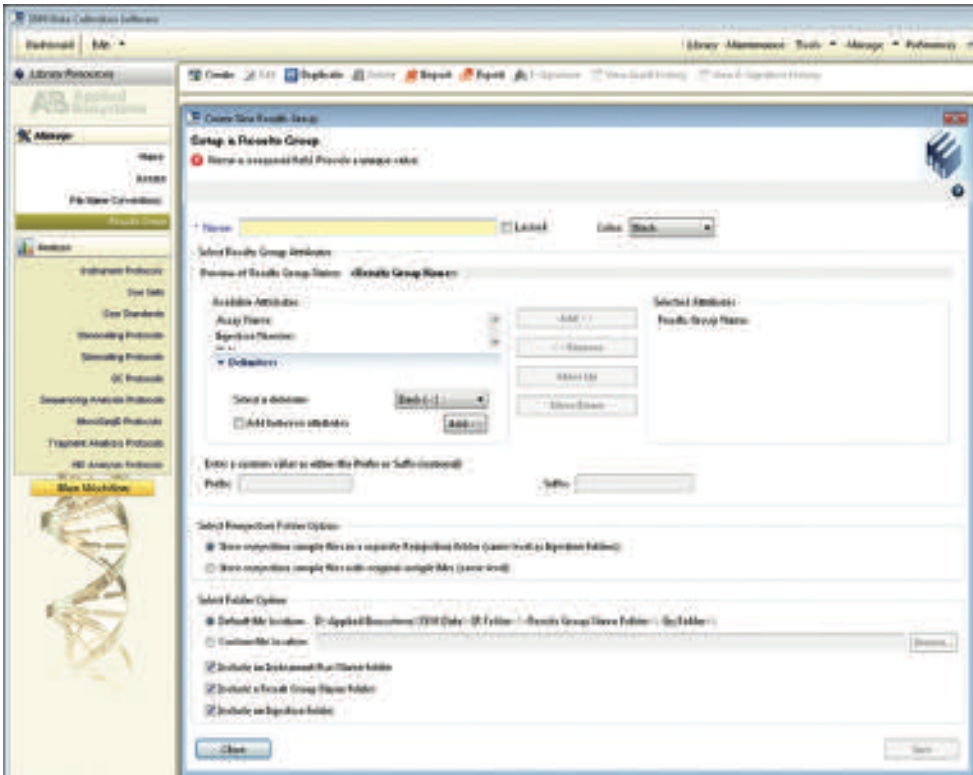

Figure 8. The Create New Results Group window.
2.f. To create a new Results Group (Figure 8), navigate to the Library. Select “Results Group”, and then select “Create”. Alternatively, a previously created Results Group may be used.